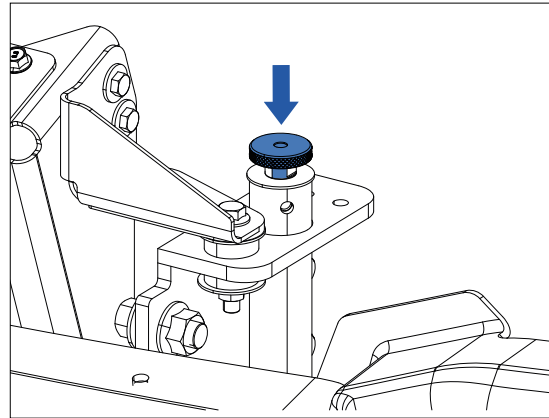

Figure 8 - Tow hook locking dowel
4. Lower the locking dowels in their receptacle (Figure 8).